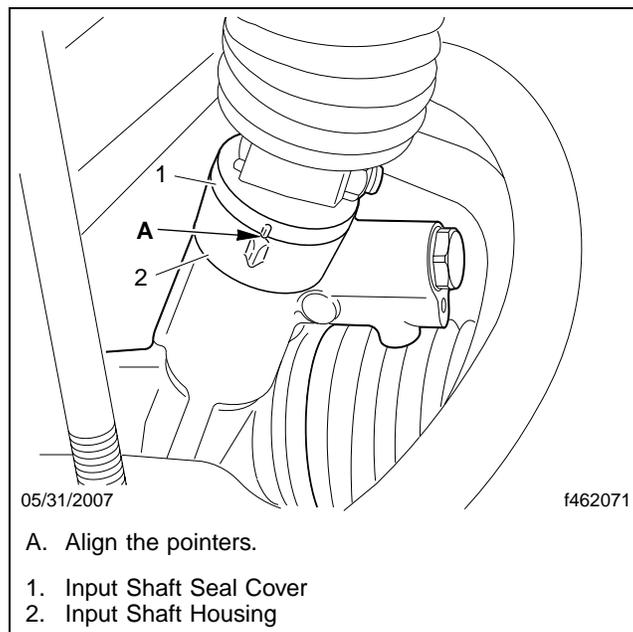

Fig. 6, Pointer Alignment
- 19.2 Align the pointers on the input shaft seal cover and the input shaft housing. See **Fig. 6**.
- 22.2 With the wheels on turnplates, center the rack travel by aligning the timing pointers on the input shaft seal cover and the input shaft housing. See **Fig. 6**.